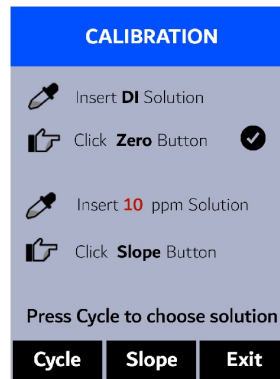

Figure 4.
6. If the calibration succeeds, a checkmark (**✓**) and instructions for the slope calibration will appear (Figure 4).